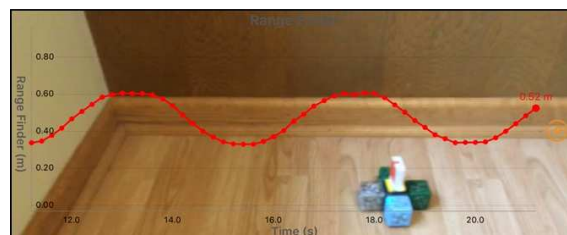

Figure 2
2. Make a DRIVE *Cubelet* move back-and-forth with a Voyager Range Finder graph that is sinusoidal, executing simple harmonic motion and shown in Figure 2. (Challenging)